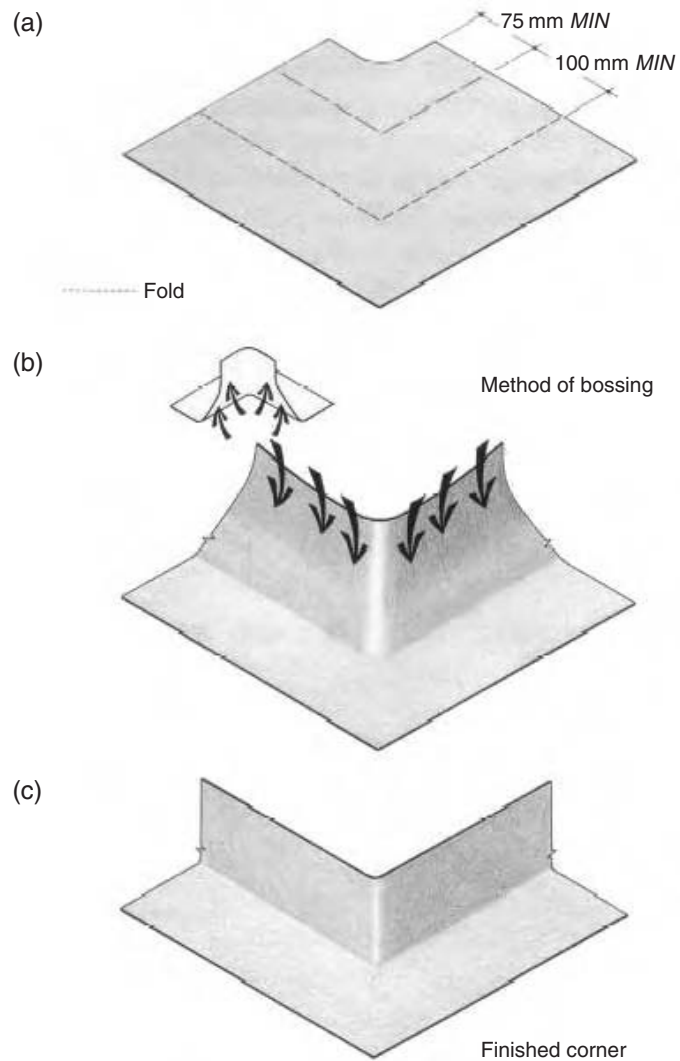

Figure 10.5 (a)–(c) Bossed external corner details
Referring to Figures 10.5(a)–(c), bossing an external corner is very labour intensive and there can be a risk of undue thinning at the corner. The preferred method of producing this detail would be by lead welding, which is more economical in both material and labour. However, the bossing process is:
- When bossing the external corner, extra lead is required to form the angle and at least 75 mm is added to the up-stand for this purpose. The lead sheet should be set out, as in Figure 10.5(a)
- After setting in the fold lines, the sides are pulled up as far as possible without stretching the lead and then bossed from both sides in the directions, as shown in Figure 10.5(b)
- When the corner has been fully bossed to the angle required, the surplus lead is trimmed off, as shown in Figure 10.5(c).